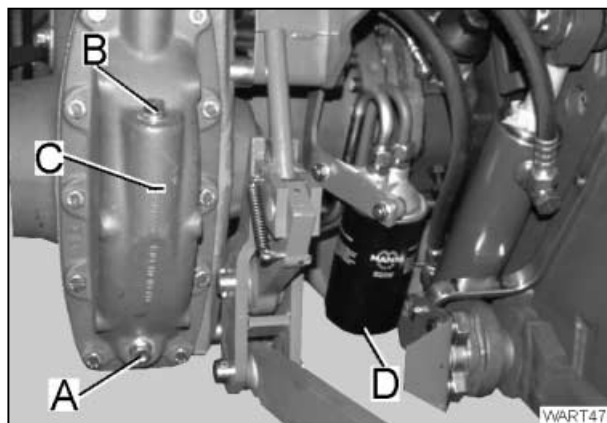

Fig.34
- Unscrew oil drain plugs (A) from the gearbox housing and 4-WD housing and allow the oil to drain completely.
- Replace filter cartridge (D/ CARE AND MAINTENANCE Fig. 34).